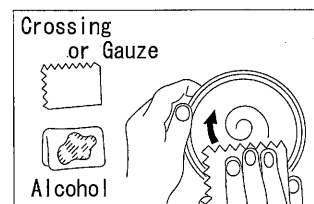

Fig. 7
- If the lens becomes dirty, wipe its surface lightly with the attached wiping cloth or another soft cloth such as gauze, as if you draw circles on it (Fig.7)